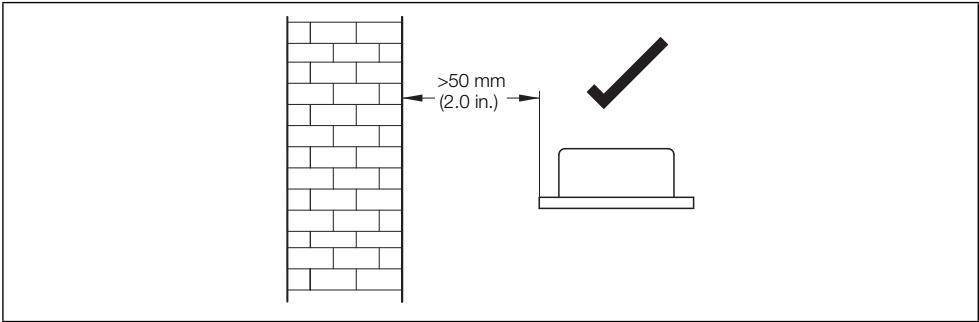

Fig. 2.15 GSM Antenna Installation
- Do not mount the antenna closer than 50 mm (2 in.) to any solid wall or surface – see Fig. 2.15, page 12.